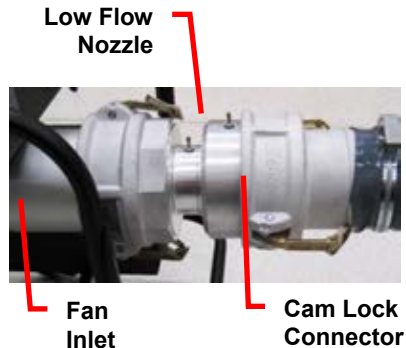

Figure 9. Negative Pressure, Low-Flow Set-Up
- d. For negative pressure, low-flow testing, add the low-flow nozzle to the blower inlet if it is not installed. Then, connect the grey cast aluminum cam lock connector to the low-flow nozzle per Figure 9. Close both cam lock arms at the same time to ensure proper fit.